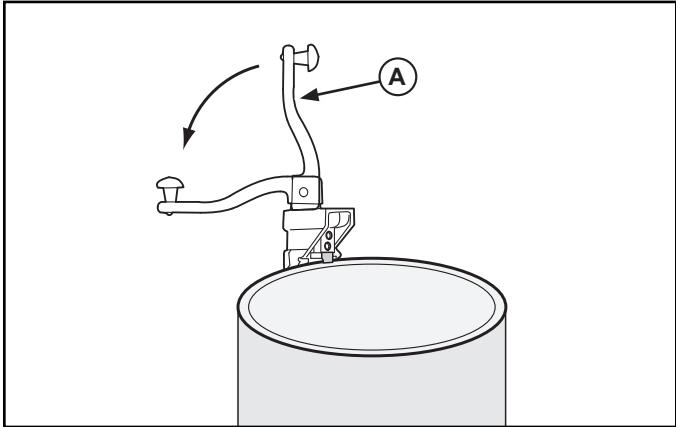

Figure 4. Lowering the Handle.
4. Lower the handle (A) to the 90° or DOWN position. See Figure 4.